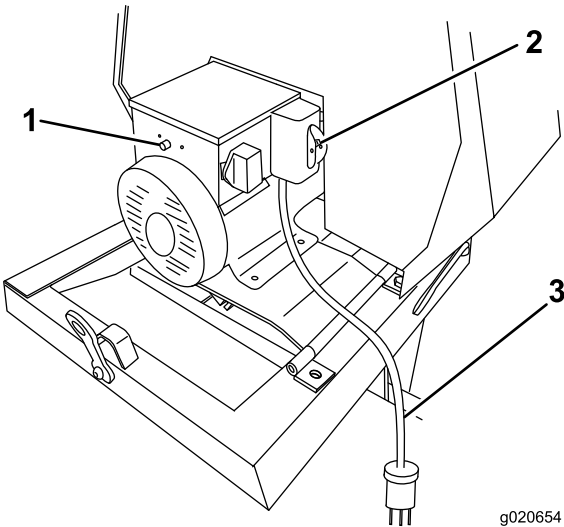

Figure 25
2. Disconnect the electrical plug for the machine from the power source (Figure 25).
4. On the side of the junction box for the motor, press the reset button for the thermal-overload protector (Figure 25).